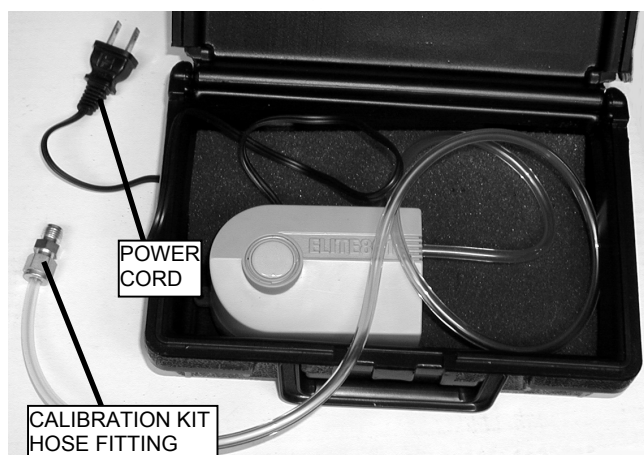

Figure 12. Oxygen Sensor Calibration Kit.
A calibration kit is used for performing the following calibration procedures. The oxygen sensor calibration kit part number is 793600-001. The kit consists of the following components. Refer to Figure 12.
- c. Attach the hose to the fitting on the calibration kit hose (see Figure 12).